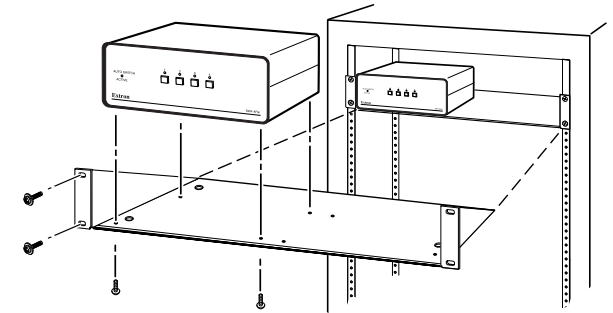

Figure 16 — Rack mounting a switcher
- 2 Place the switcher on the mounting shelf, aligning the holes on the bottom of the switcher with the holes on the bottom of the shelf (figure 16).